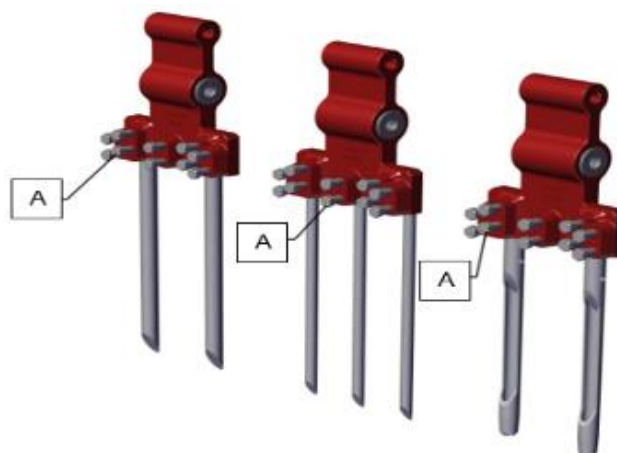

Figure 10
The locking bolts (A) may be tightened with a torque of 40 Nm/29.5 lbf.ft (see Figure 10).